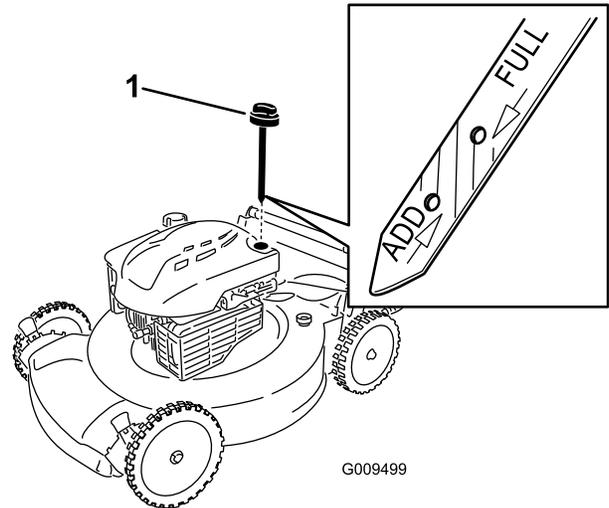

Figure 10
2. Remove the dipstick, wipe it clean, and fully install the dipstick (Figure 10).
3. Remove the dipstick and check the oil level (Figure 10). If the oil level is below the **Add** mark on the dipstick, slowly pour oil into the oil fill tube to raise the oil level to the **Full** mark on the dipstick. **Do not overfill.**